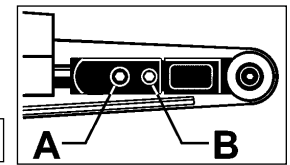

fig. 4
- 4.5. The tracking of the belt can be altered by adjusting the two recessed hex socket screws on the idle pulley bracket ( see fig.4 ). Loosen the locking screw 'A' using the hex key provided. Using the same key turn screw 'B' to alter the tracking. When the belt is running true, lock the setting by re-tightening bolt 'A'.